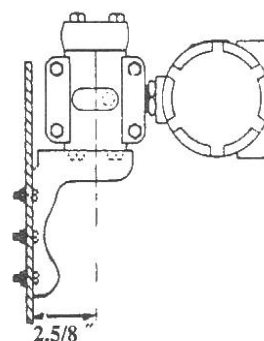

Figure 2-3 The mounting angle bracket
**The installation of plat mounting angle bracket:** the typical installation as Figure 2-3 shows. Fix transmitter in angle bracket using four bolts provided, and then fix the angle bracket on the plate with the M10 bolt.